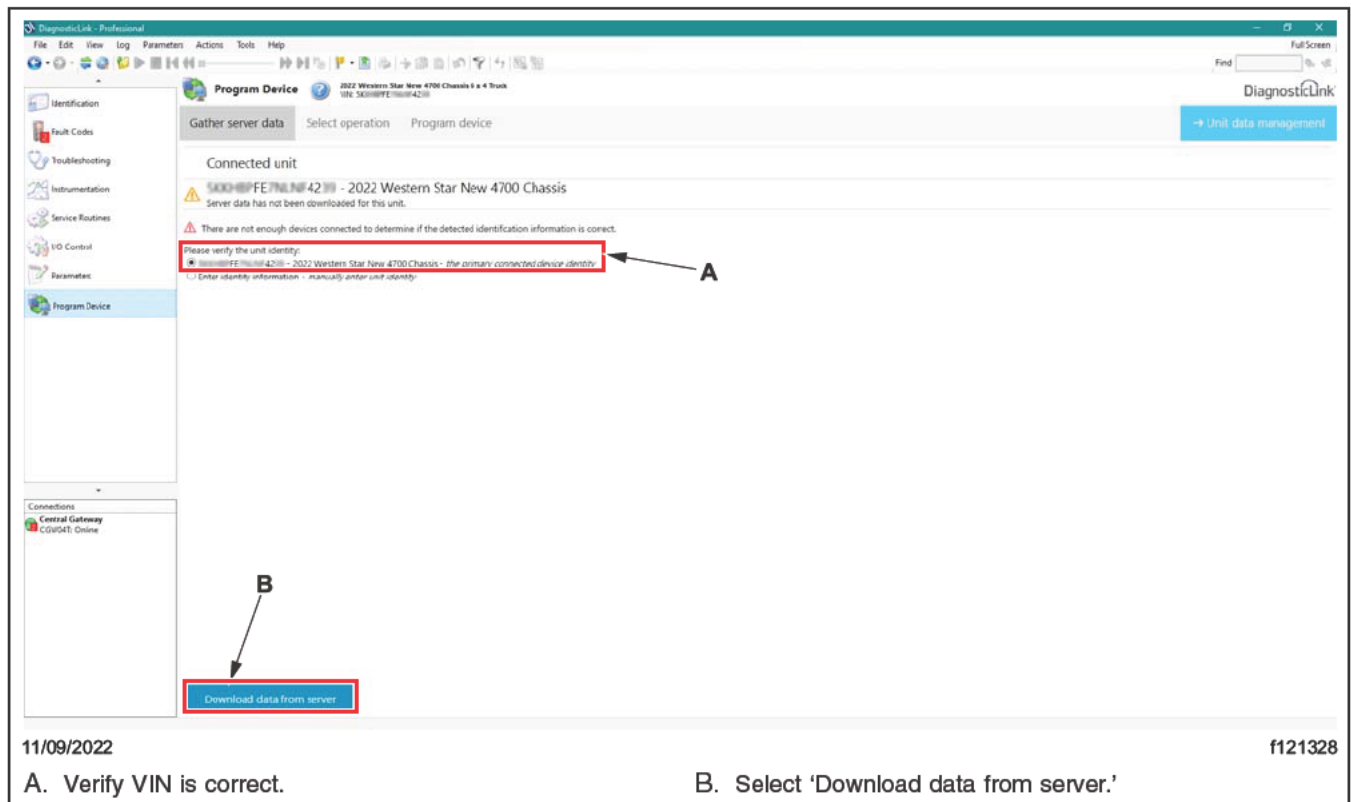

Fig. 23, Downloading Data from Server
- Go to the 'Program Device' tab, and make sure the vehicle identification number (VIN) that appears is correct. Select 'Download data from server.' See Fig. 23.